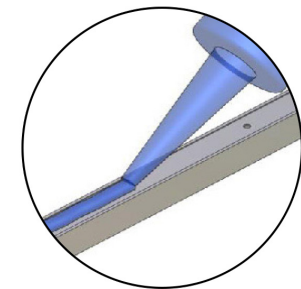
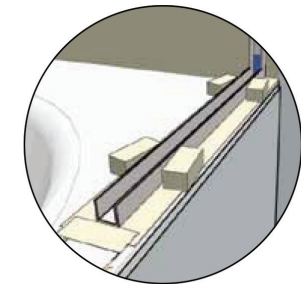
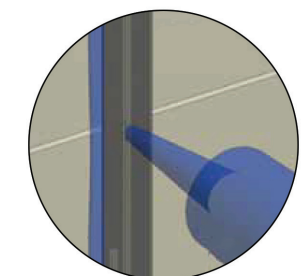

FIG 2.
FIG 3.
FIG 4.
- Clean underside of bottom channel and bath surface with a dry rag and run a thick bead of silicone along underside of bottom channel (FIG 2).
- Place bottom channel into position and press firmly (FIG 3). Bottom channel does not require screw fixings.
- Clean and silicone wall channel as per bottom channel (FIG 2). Inject silicone into and around screw holes (FIG 3). Ensure wall channel is plumb, then screw into place (FIG 4).